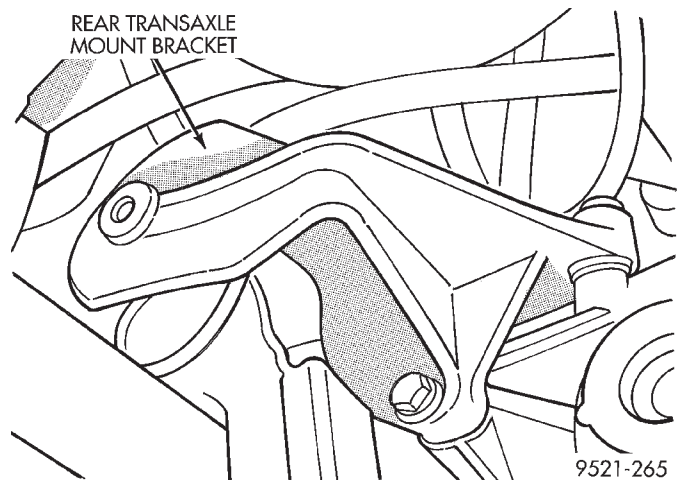

Fig. 34 Rear Transaxle Mount Bracket
(24) Remove rear transaxle mount bracket (Fig. 34).